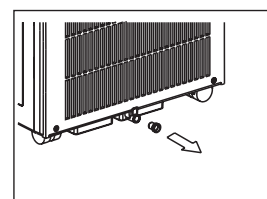

Fig.6
- When the water level of the bottom tray reaches a predetermined level, the unit beeps 8 times, the digital display area shows "P1" and the unit stops air conditioning/dehumidification process. However, the fan motor will continue to operate (this is normal). Carefully move the unit to a drain location, remove the bottom drain plug and let the water drain away (Fig.6). Restart the machine until the "P1" symbol disappears. If the error repeats, call for service.
- Remove the plug from the bottom drain outlet, all the water in the bottom tray would drain out (See Fig.6).